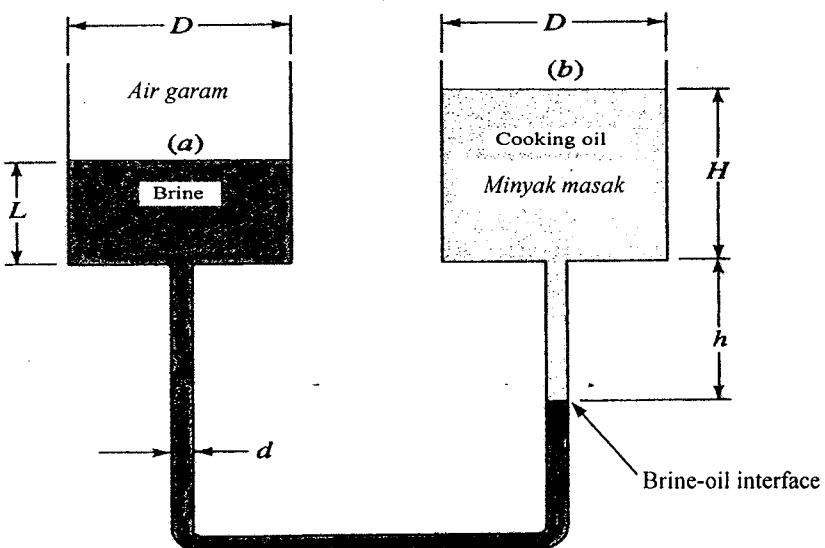

Figure Q.1. [a]
1. [a] The dimension of the manometer can sometimes give a significant effect to the pressure measurement. In Figure Q.1. [a] below, containers (a) and (b) are cylindrical in shape and conditions are such that  $p_a = p_b$ . Derive a formula for the pressure difference  $p_a - p_b$  when the brine-oil interface on the right rises a distance  $\Delta h < h$ , for  $d \ll D$ . Let the densities of brine and cooking oil be  $\rho_{\text{brine}} \text{ kg/m}^3$  and  $\rho_{\text{oil}} \text{ kg/m}^3$  respectively.